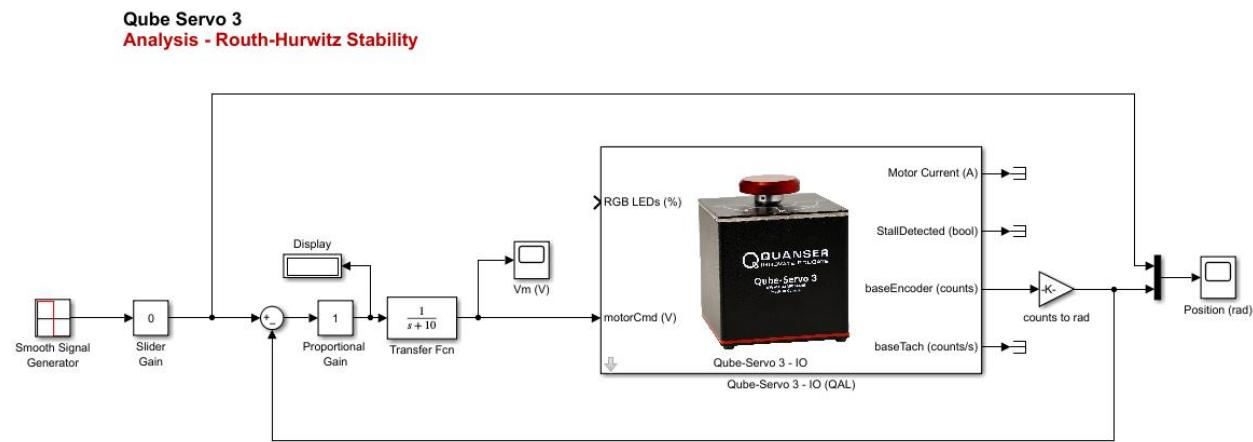

Figure 1: Simulink model used to test stability of Qube-Servo 3
Using the gains found to convert encoder counts into rads from the instrumentation labs update the qs3\\_routh\\_hurwitz.slx file to match Figure 1. Leave the disconnected gain block.
Build the Simulink model shown in Figure 1, if it has not already been provided, use a previous model as a start.
Now that the theoretical stability of the system has been calculated, these calculations can be validated on hardware. Create or open the Simulink model from Figure 1.
- Open the *qs3\_routh\_hurwitz* model shown in Figure 1.